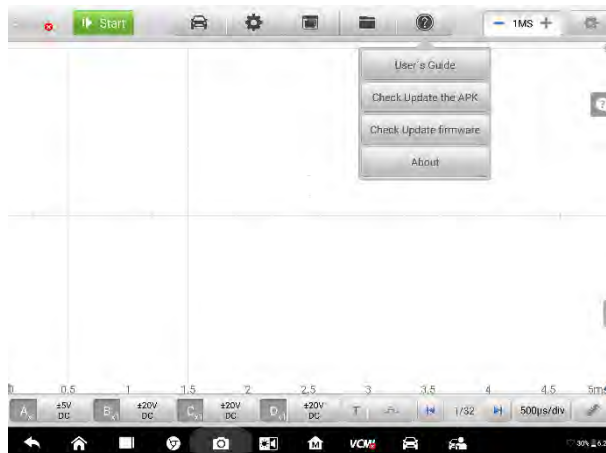

Figure 9-2 Sample Help Screen
1. Tap the **Help** button on the upper half of the screen. A dropdown list appears. (Figure 9-2)